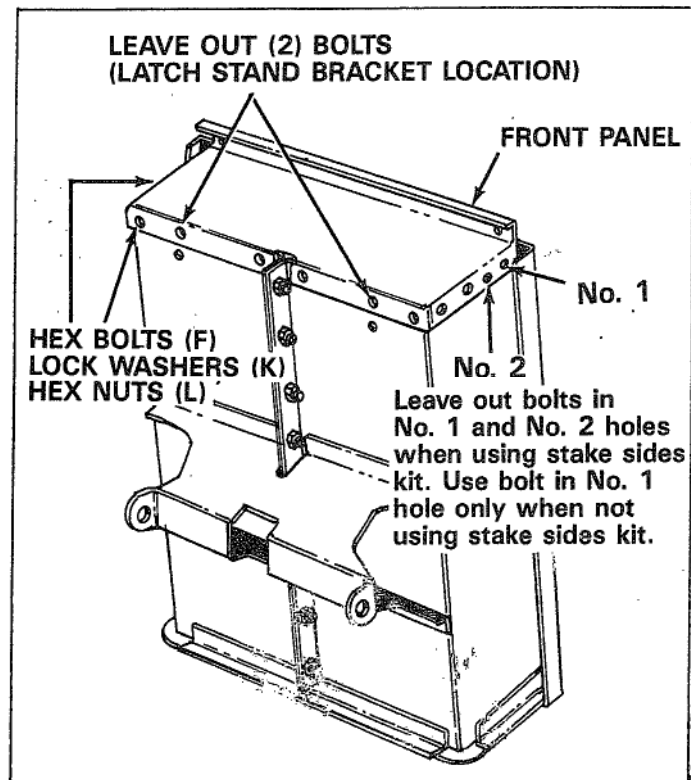

FIGURE 7
12. Assemble front panel to open end of cart body, using 1/4" x 1/2" hex bolts (F), lock washers (K) and hex nuts (L). Bolt heads to inside of cart. Leave out (2) bolts for latch stand bracket. See figure 7.
Do Not assemble bolts in No. 1 of No. 2 holes when using optional stakesides kit (each side). See figure 7.